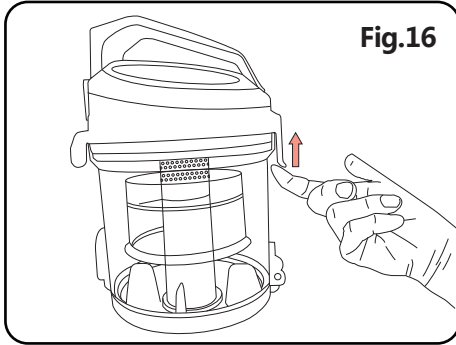

Fig.16
(3) As in fig.16, rotate the HEPA cover to separate it from the chamber cover